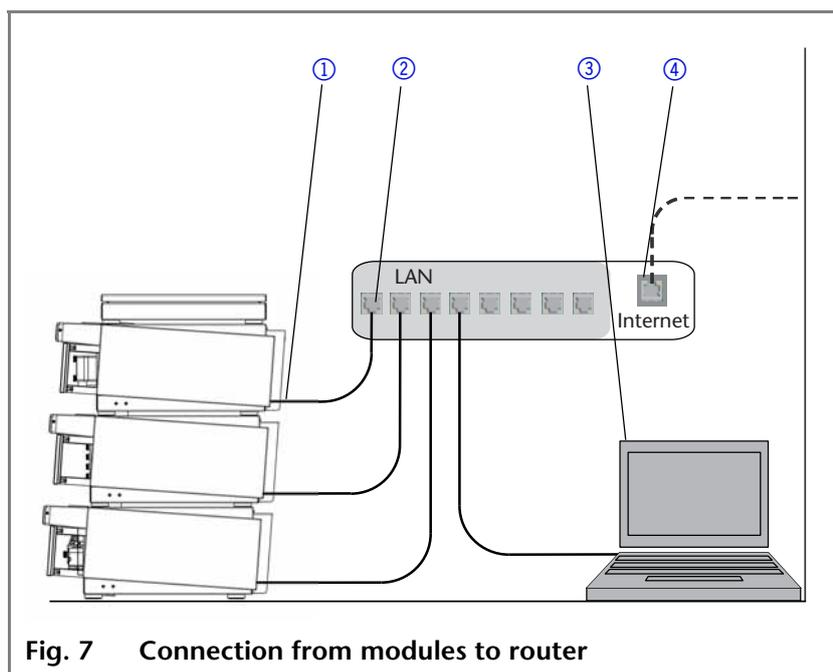

Fig. 7 Connection from modules to router
1. Set up and cable the local area network (LAN) as shown in fig. 7. Create a local network by using network cables to connect the LAN port of the workstation with the LAN ports on the various modules.